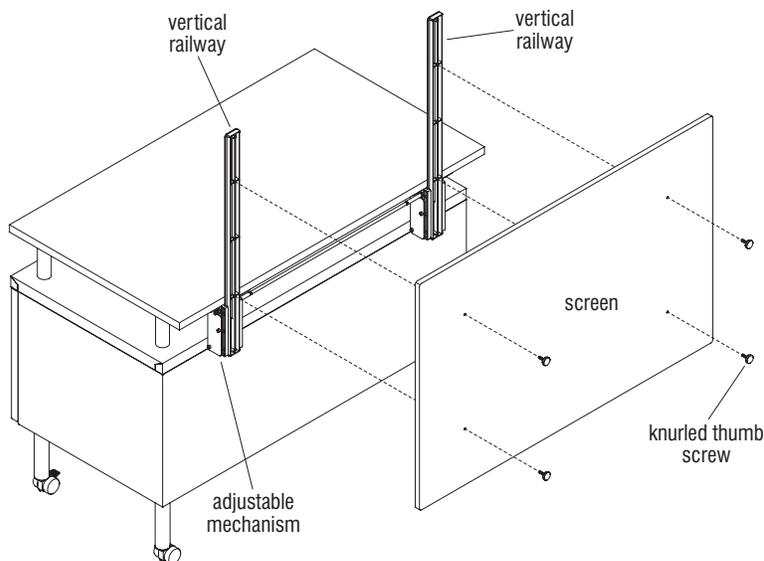

Figure 8
4. Once both adjustable mechanisms are installed, position the screen onto the backs of the vertical railways and align mounting holes. Secure screen to the rails using two knurled thumb screws per mechanism from the back, as illustrated (Figure 8).